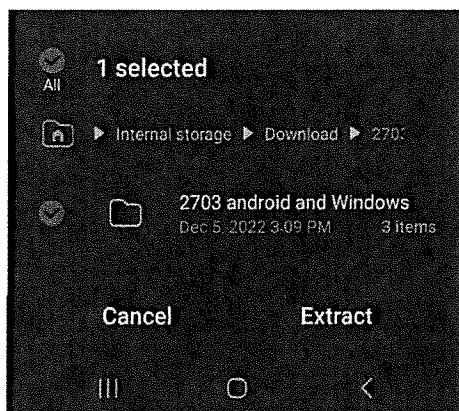

Figure 2: Extracting the Nutech 2703 app.
- Using Dropbox click on the file and extract (Figure 2).